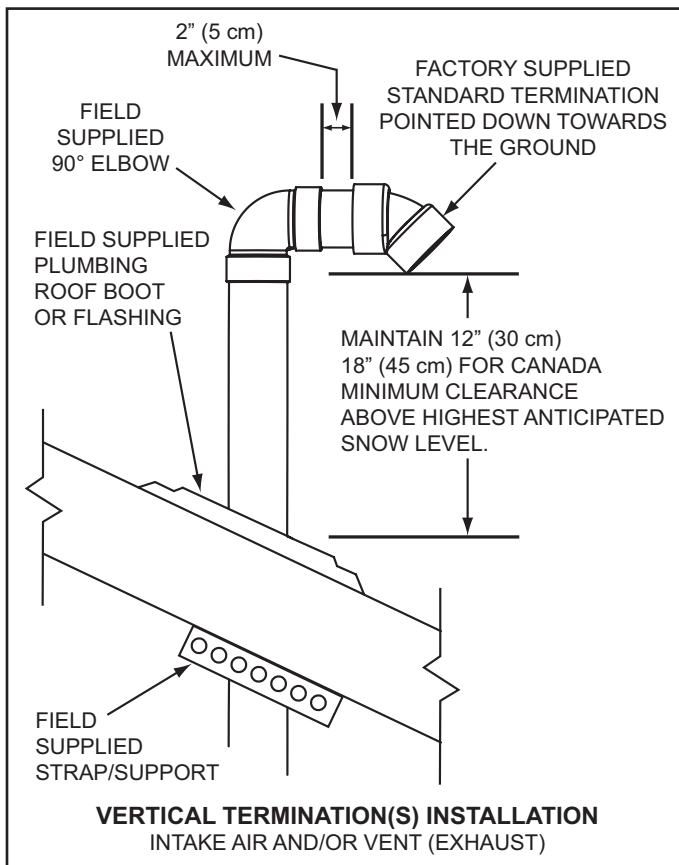
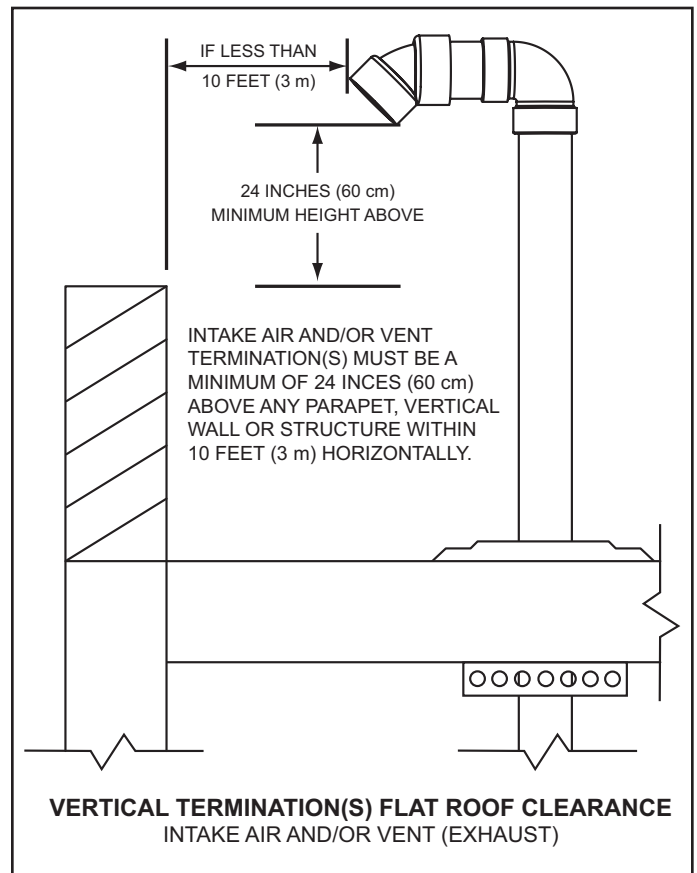
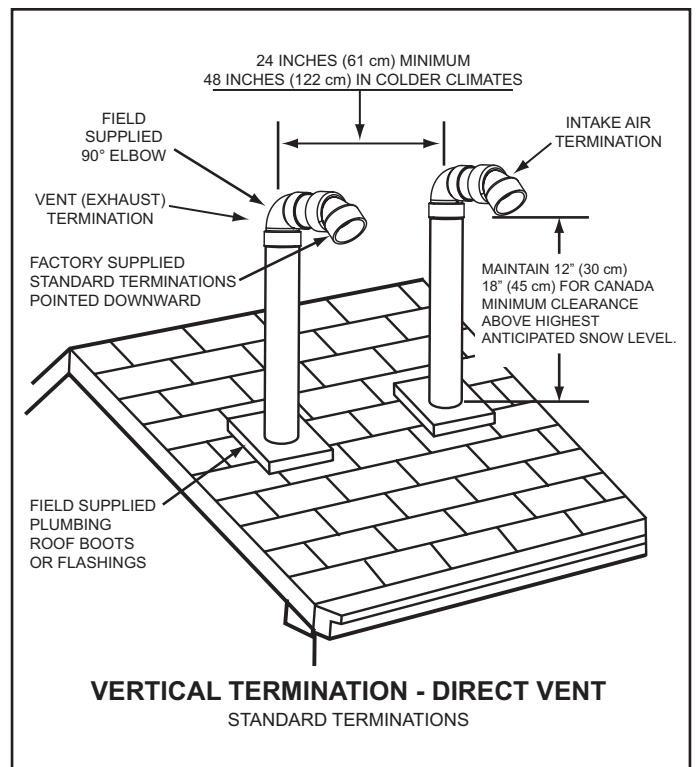

Figure 18
Figure 19
Figure 20
- If installing only the vent (exhaust) piping in a Power Vent configuration vertically through the roof; ensure that all exterior vertical clearance requirements shown in Figure 18 and Figure 19 on page 25 are being maintained. These clearances and those cited by local and national codes must be maintained.
NOTE: On flat roof installations the vent termination must be a minimum of 24 inches (60 cm) above any parapet, vertical wall or structure within 10 feet (3 m) horizontally. See Figure 19 on page 25.
- If installing both intake air and vent piping in a Direct Vent configuration vertically through the roof; ensure that all exterior vertical clearance requirements shown in Figure 18 and Figure 19 on page 25 are being maintained. These clearances and those cited by local and national codes must be maintained.
NOTE: On flat roof installations the intake air and the vent terminations must be a minimum of 24 inches (60 cm) above any parapet, vertical wall or structure within 10 feet (3 m) horizontally. See Figure 19 on page 25.
The vent termination must be oriented facing downward as shown in Figure 18 and Figure 19 on page 25.
The bottom edge of the vent termination must be a minimum of 12 inches (30 cm), 18 inches (45 cm) in Canada, above the average or expected snow level as shown in Figure 18 on page 25.
The intake air and vent pipes must penetrate the same side of the roof as shown in Figure 20 on page 25.
The intake air and vent terminations must be oriented facing downward and in the same direction as shown in Figure 20 on page 25.
The intake air and vent terminations must have a minimum separation of 24" (61 cm) measured on center line as shown in Figure 20 on page 25. In colder climates this separation should be increased to at least 48 inches (122 cm).
in Canada, above the average or expected snow level as shown in Figure 18 and Figure 20 on page 25.
The distance between the closest vent and intake air terminations must be a minimum of 24 inches (61 cm) as shown in Figure 20. In colder climates this separation should be increased to at least 48 inches (122 cm).
- Suspend the pipe(s) through center of hole using field supplied metal strapping or equivalent support materials as shown in Figure 18.
- Slide a roof boot or equivalent flashing over the pipe and secure roof boot or equivalent flashing to roof (see Figure 18) and seal around the flashing.
- Install the factory supplied intake air and/or vent termination(s) using field supplied pipe and one field supplied 90° elbow as shown in Figure 18. The short section of pipe that connects between the field supplied 90° elbow and the factory supplied termination must not be excessive in length. The exposed portion of this pipe shall be no more than 2 inches (5 cm), see Figure 18.